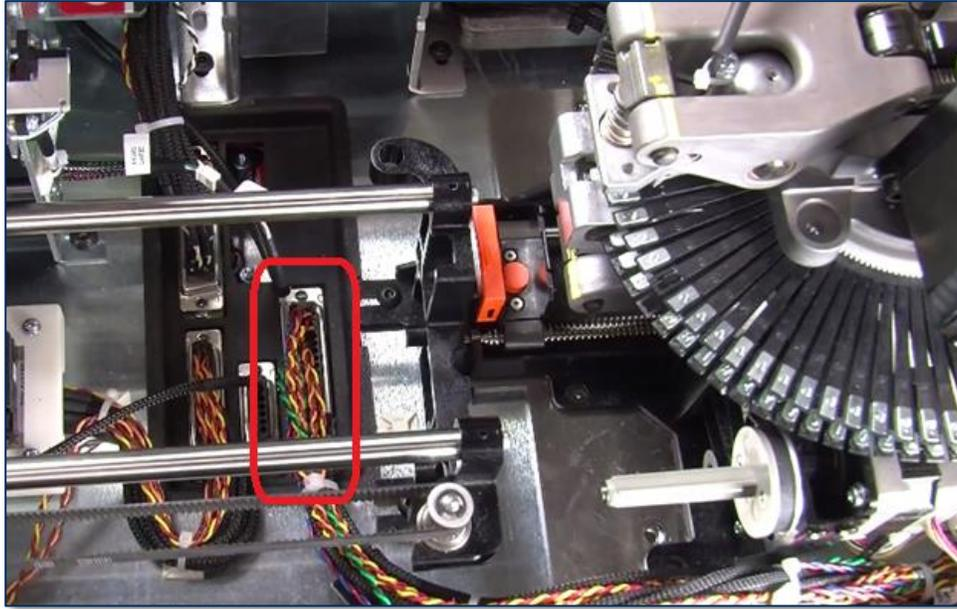

Figure 3-2 - Embosser Cable (TOP VIEW FROM LEFT)
Figure 3-2 shows the cable as seen from the left side of the device.
- 5) Route the embosser cable along the left wall of the device, then under the XY transport belt and rails as shown in **Figure 3-2**.